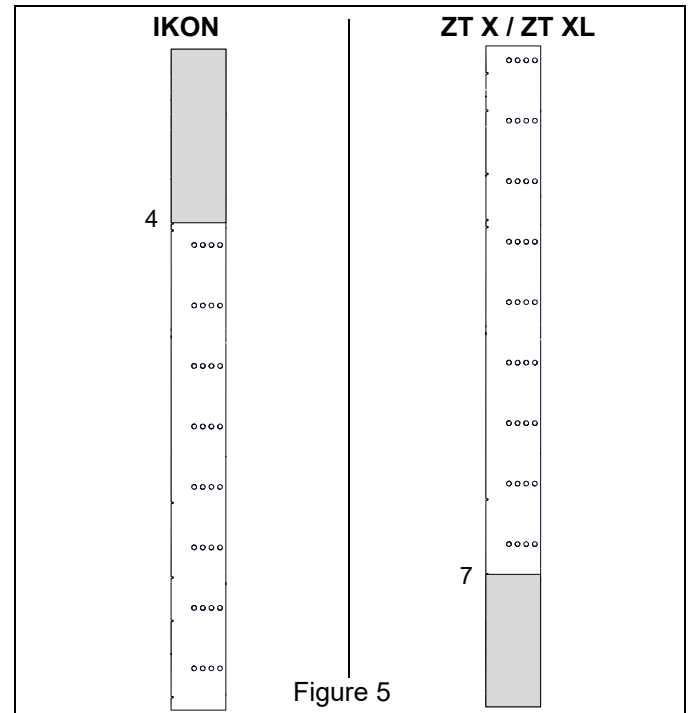

Figure 5
1. Trim rubber skirt (item 1) as shown in Figure 5.